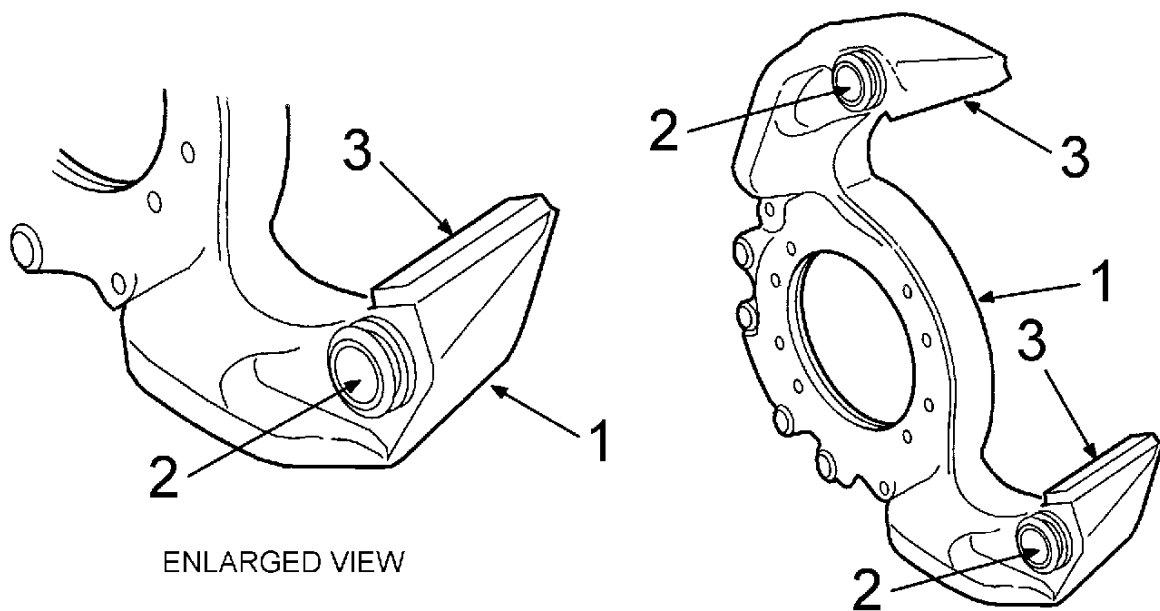
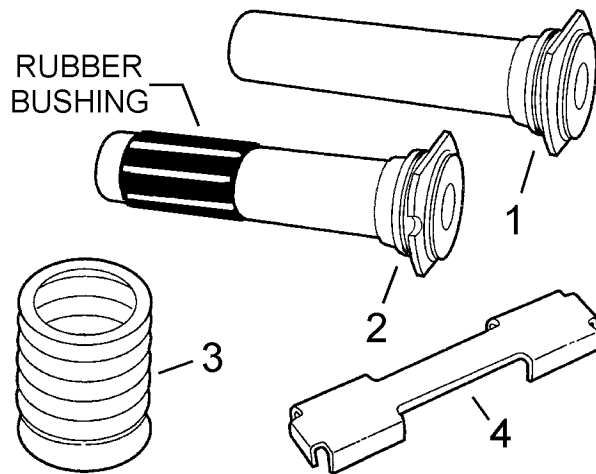

Figure 48 Clean And Inspect Anchor Plate
Figure 50 Clean and Inspect Guide Pin Boots and Abutment Slippers
Refer to Figure 48 for Items in parentheses.
Refer to Figure 50 for Items in parentheses unless otherwise noted.
1. Uniformly apply Shell/Albida PPS 1 grease (from 3 oz. tube in rebuild kit) to both guide pin bores (Item 2, Figure 48) (See Figure 48, page 51) of anchor plate (Item 1, Figure 48) (See Figure 48, page 51) and on the shaft of both leading guide pin and trailing guide pin (including rubber bushing) (Items 1 and 2, Figure 50) (See Figure 50, page 53). Use 1/8 ounce of grease to thoroughly lube each guide pin and guide pin bore set.
2. Installing guide pin boots (Item 3, Figure 50) (See Figure 50, page 53). Apply a thin coat of Shell/Albida PPS 1 grease (from 3 oz. tube in rebuild kit) to the inside opening at each end of the guide pin boot. **When rebuilding the anchor plate, use new guide pin boots.**